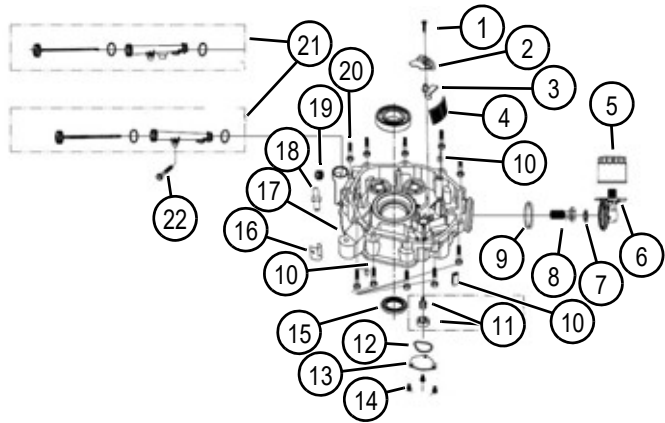

Figure 4-28: Crankcase Cover
3. See Figure 4-28. Measure the top, middle and bottom of the cylinder bore at the X and Y axis.